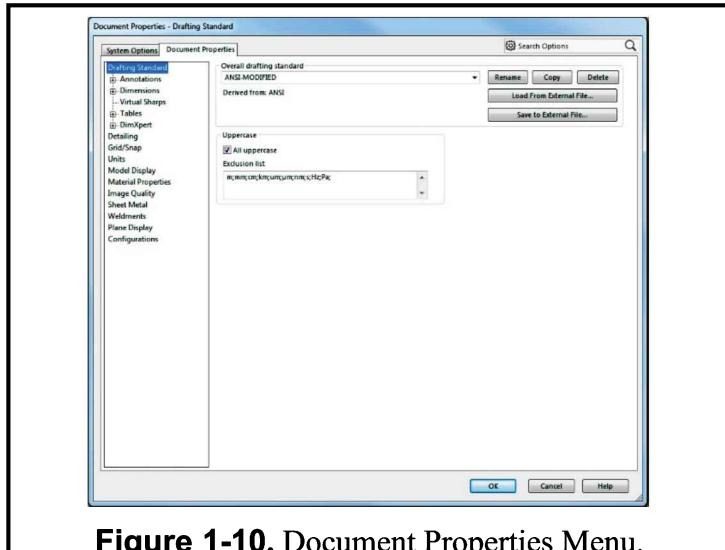
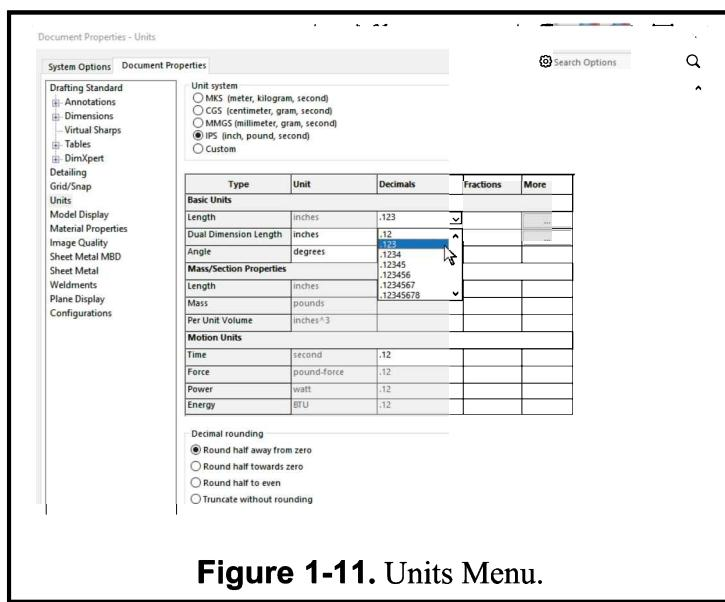

Figure 1-10. Document Properties Menu.
Figure 1-11. Units Menu.
To start, go to the menu **File, New**, select **Part** and click **OK**. Go to the menu **Tools, Options**, select the **Document Properties** tab, make sure the **Dimensioning Standard** is set to **ANSI** (see **Figure 1-10**). Next, select **Units** in the left-hand column of the dialog and activate **IPS (Inch, Pound, Second)**. You should also set the Decimal Places to three (3) as indicated in **Figure 1-11**. Click **OK** to close the “Document Properties”.